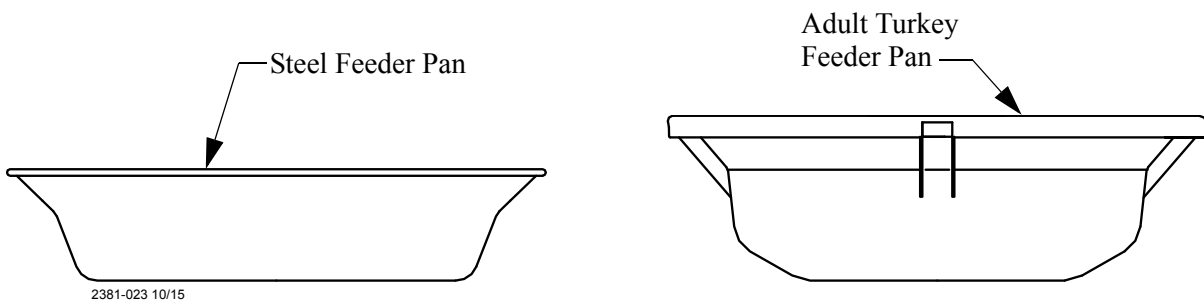

Figure 24. Feeder Pans
3. Determine which Feeder Pan (Adult Turkey or Steel) is to be installed, see figure 24.